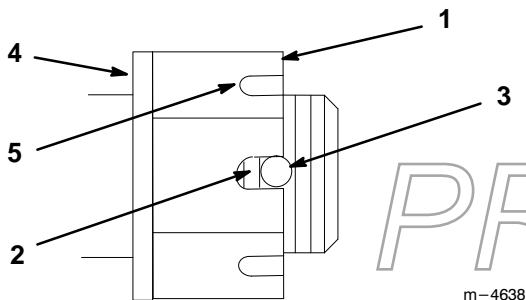

Figure 40
3. Torque slotted nut to 125 ft–lbs (169.5 N•m) (Fig. 40).
4. Check the distance from bottom of slot in nut to inside edge of hole. Two threads or less should be showing (Fig. 40).
5. If more than two threads are showing remove nut and install washer between hub and nut (Fig. 40).
6. Torque the slotted nut to 125 ft–lbs (169.5 N•m) (Fig. 40).
7. Tighten nut until the next set of slots line up with the hole in the shaft (Fig. 40).